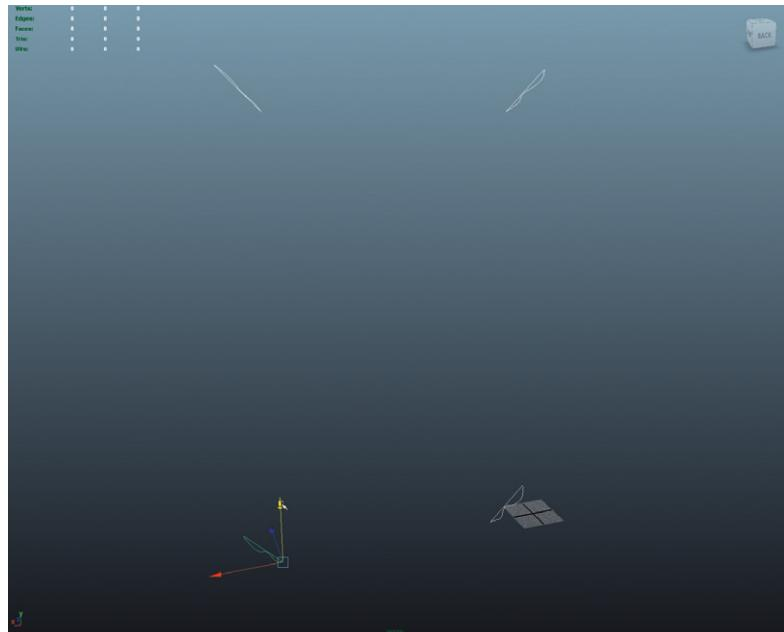

FIG 3.82 Last curve in place.
Step 19: Duplicate curve #3 and move it (curve #4) straight down, so that it is at the same level as curve #1 (Fig. 3.82).